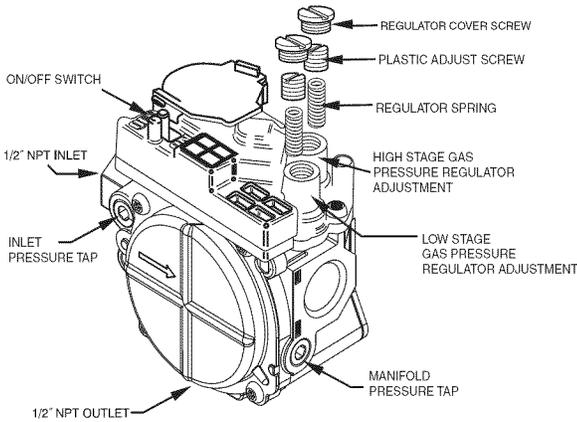

Fig. 19 - Redundant Automatic Gas Control Valve
2. Adjust manifold pressure to obtain low stage input rate (See Fig. 19).
- e. Remove regulator adjustment cap from low stage gas valve pressure regulator (See Fig. 19) and turn low-stage adjusting screw (3/16 or smaller flat-tipped screwdriver) counterclockwise (out) to decrease rate and clockwise (in) to increase input rate.
5. Adjust manifold pressure to obtain high stage input rate (See Fig. 19).
- b. Remove regulator adjustment cap from high stage gas valve pressure regulator (See Fig. 19) and turn high-stage adjusting screw (3/16 or smaller flat-tipped screwdriver) counterclockwise (out) to decrease rate and clockwise (in) to increase input rate.